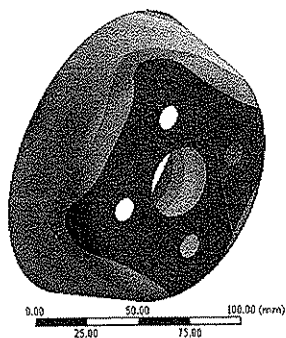

Figure 10-48 First mode shape displayed in the Graphics screen
6. Select **Total Deformation** under the **Solution** node in the Tree Outline; first mode shape is displayed in the Graphics screen, as shown in Figure 10-48.